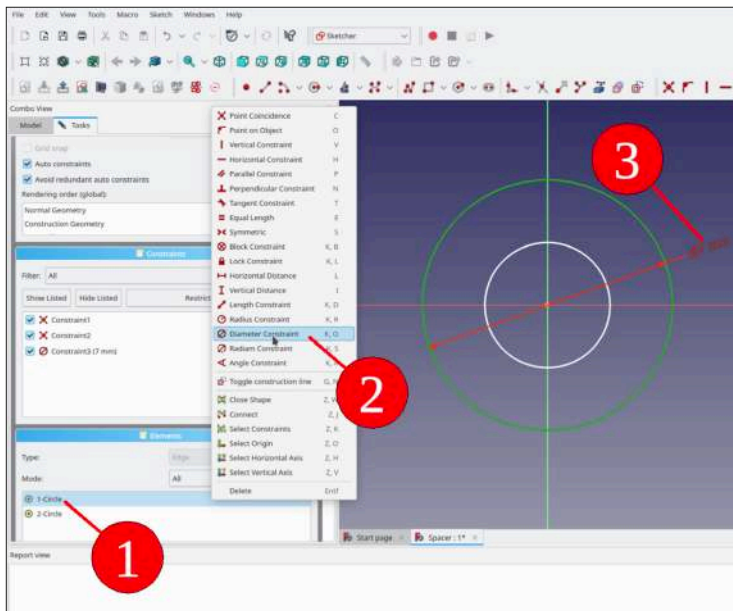

Figure 4-3
**4.** To define the constraint, in the 'Elements' list, right-click the outer circle. Its color changes to green, in order to indicate that work with it is in progress. In the top part of the context menu, the available constraints are listed with red symbols (Figure 4-3).